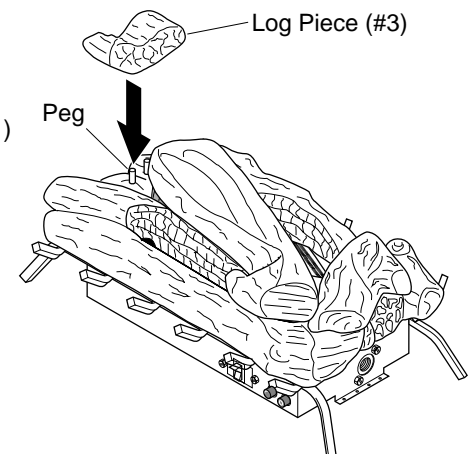

Figure 21 - Installing Log Piece (#3)
3. Position log piece (#3) by aligning holes on underside with remaining pegs on bottom log (see Figure 21).